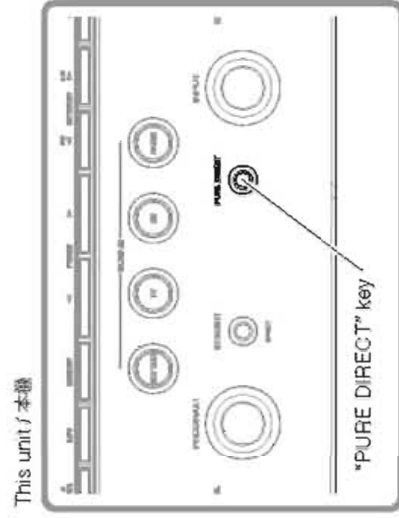

Fig. 7
- While pressing the "PURE DIRECT" key of this unit, connect the power cable of this unit to the AC outlet. (Fig. 7)
Writing is started automatically. (Fig. 7)